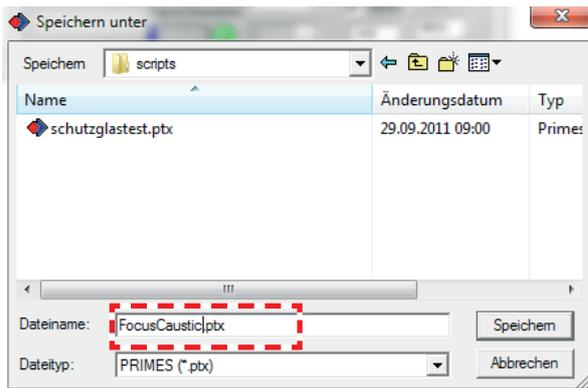
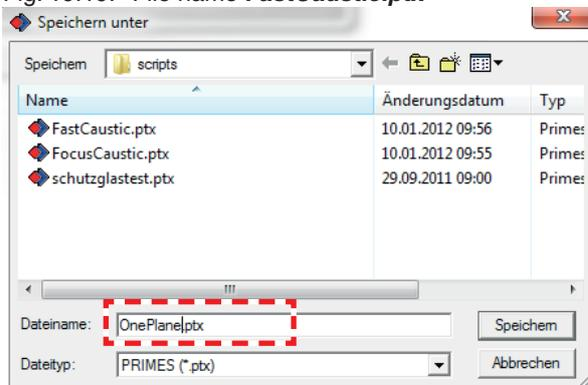

Fig. 19.18: Menu **File>>Save as ...**
Fig. 19.20: File name **One plane.ptx**
3. Choose the directory of the scripts (in this case *c:\Program Files (x86)\Primes\LDS\scripts*) and save the preference files named as shown in Fig. 19.18 on page 53 to Fig. 19.20 on page 53.